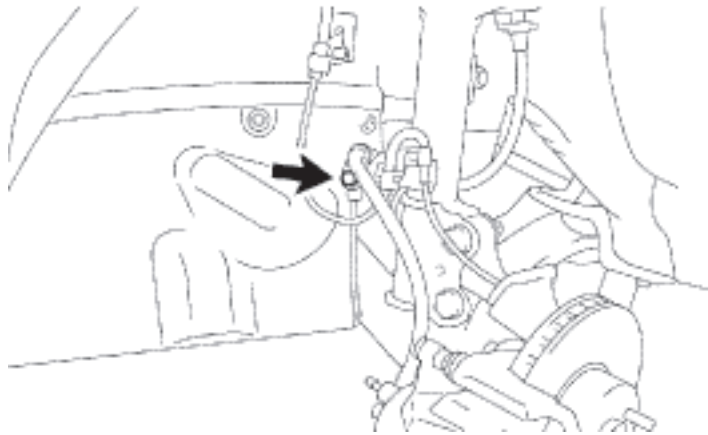

fig. 4
4. Unbolt/unclip the speed sensor and brake line from the strut. Discard bolt. (fig. 4)